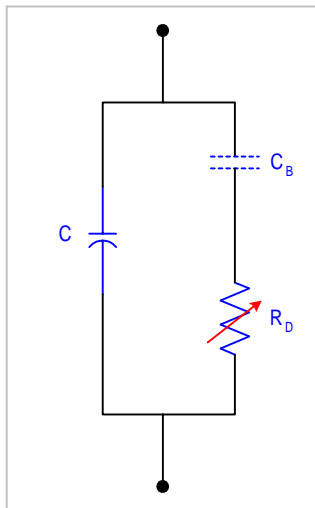

Figure 3: Parallel Resistance
3. **Dielectric loss:** This is due to two phenomena molecular polarization and interfacial polarization (dielectric absorption). It is not the purpose of this note to discuss its cause, but only its effect. It causes a D that can change with frequency in most any manner that is not abrupt. It acts neither as a series resistance, nor as a parallel resistance that would pass DC. One model is a parallel resistance, R_D , which is variable with frequency, with DC blocked by a large series capacitance (C_B) as illustrated in Figure 3.